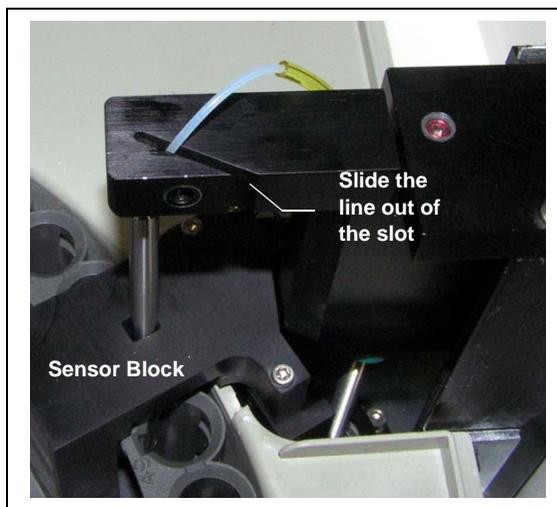

Figure 5-3. Sliding the Sample Out Line Out of the Sampling Head Slot
6. Pull slightly on the sample out line to gain a small amount of slack in the line. Then, slide the tubing out of the slot in the sampling head (see Figure 5-3).